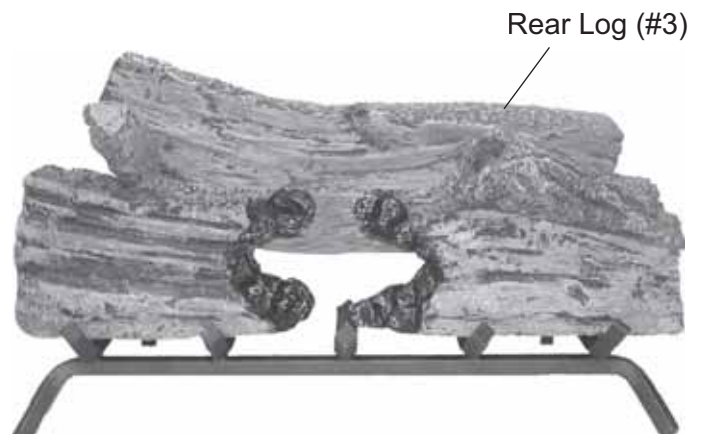

Figure 106 - Installing Rear Log #3
5. Fit cutout in the bottom left of Rear Log #3 over the back end of Log #2. Rest right end of Log #3 on rear grate bar. *See Figure 106.*